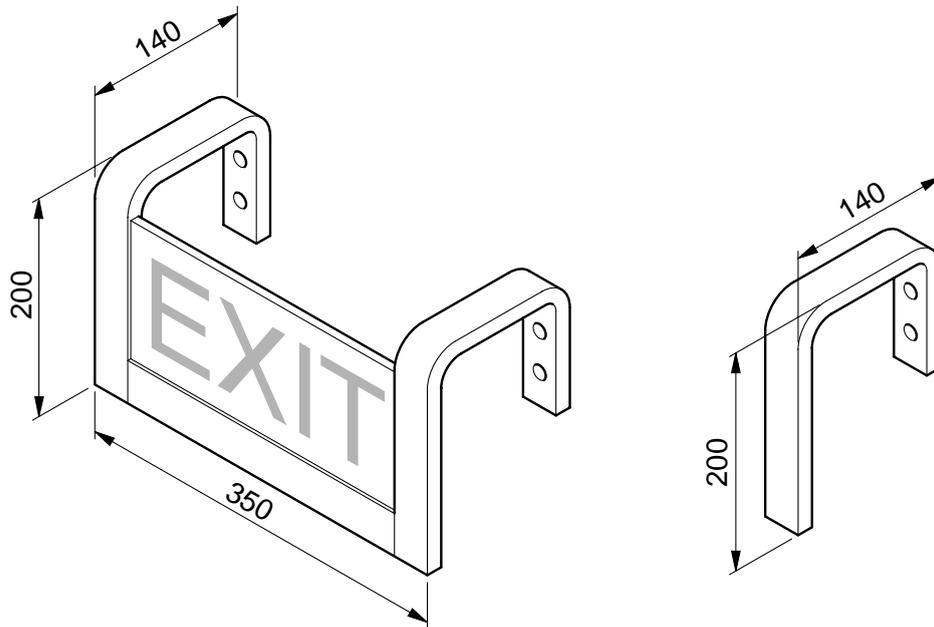

Fig. 8
- 7 Fig. 8 shows a wall-mounted exit sign to be used in an airport departure lounge. made from wood and the sign from plastic.